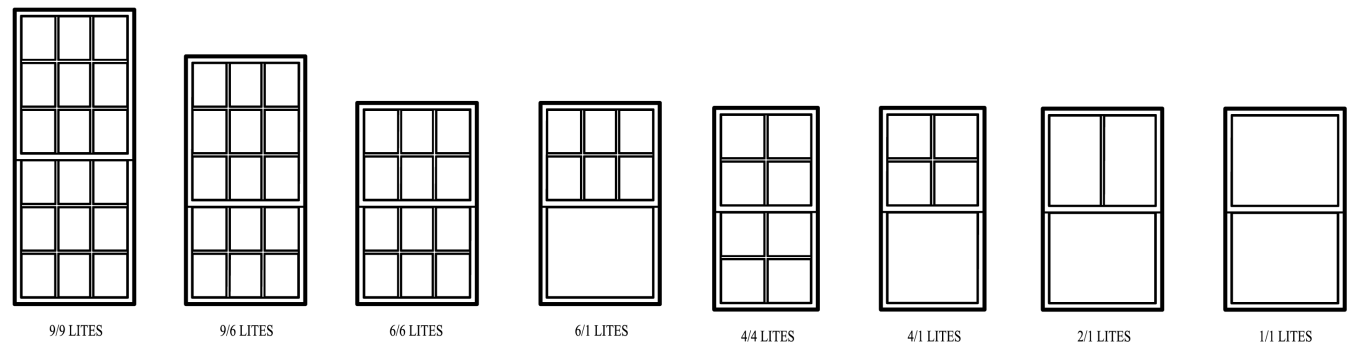

Figure 21
- » Windows and window lites shall be square or vertical in proportion. Windows shall be configured with 9/9, 9/6, 6/6, 6/1, 4/4, 4/1, 2/1, or 1/1 lites. Muntins shall be true divided light or simulated divided light. See Figure 21.